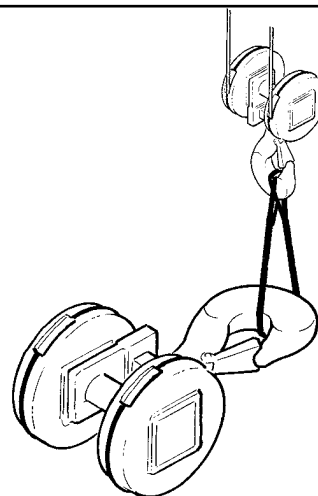

fig. 46
3. Release the hook block from its fastenings, where it is a separate item and not already installed on the hoist, position it on the ground, taking care to lift it with suitable means when its weight is over 30 kg (the weight, when necessary, is indicated on the item). Always use the hook as a point of harnessing or handling in the case of manual handling (fig. 46).